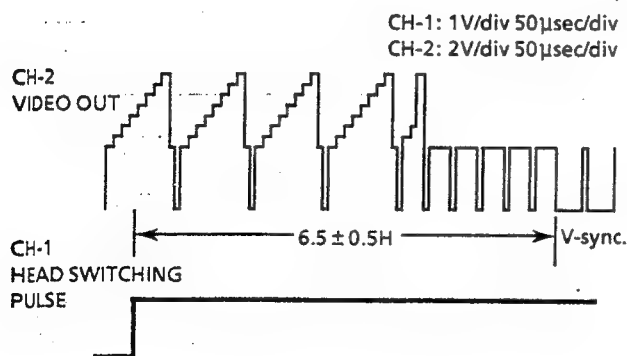

Figure 2-3.
5. Adjust R704 so that the leading edge of the head switching pulse is  $6.5H$  (lines) ahead of the vertical sync. as shown in Figure 2-3.